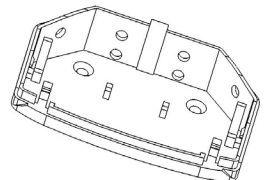

Figure 6
- Depending on the chosen location of the Detector, determine the Detector base sides for fastening to the installation place and drill fastening holes or press them out with a screwdriver (Figure 6).